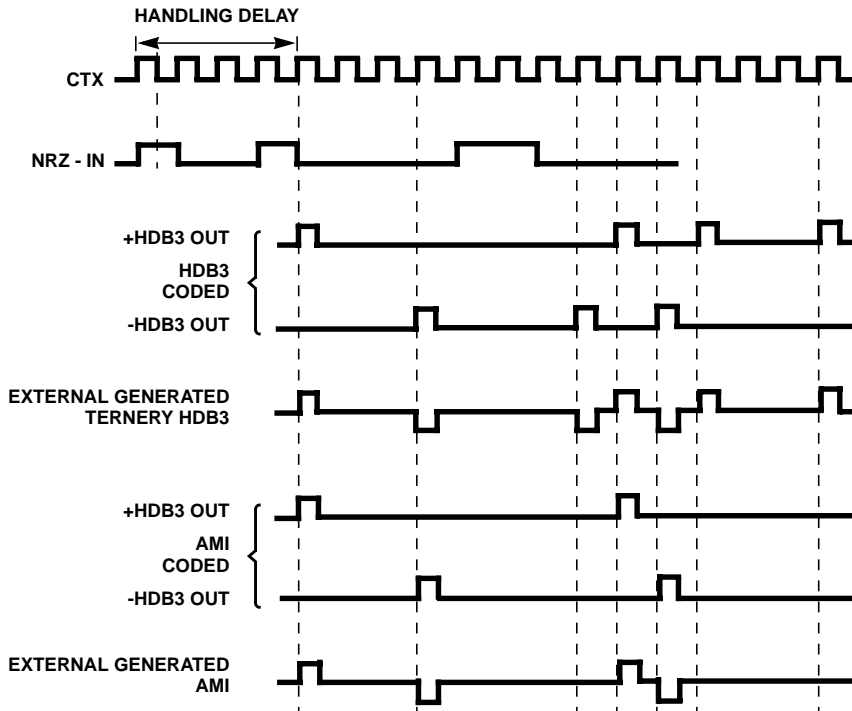

FIGURE 1. TRANSMITTER CODER OPERATION TIMING WAVEFORMS - NRZ TO HDB3/AMI CODING
The CD22103A is designed to code and decode HDB3 signals which are coded as binary digital signals (NRZ-IN) and (+HDB3 IN, -HDB3 IN), accompanied by sampling clocks (CTX) and (CRX). The two binary coded HDB3 outputs, (+HDB3 OUT, -HDB3 OUT) may be externally mixed to create the ternary HDB3 signals (See Figure 1).
**Transmitter Coder (See Figure 1)**